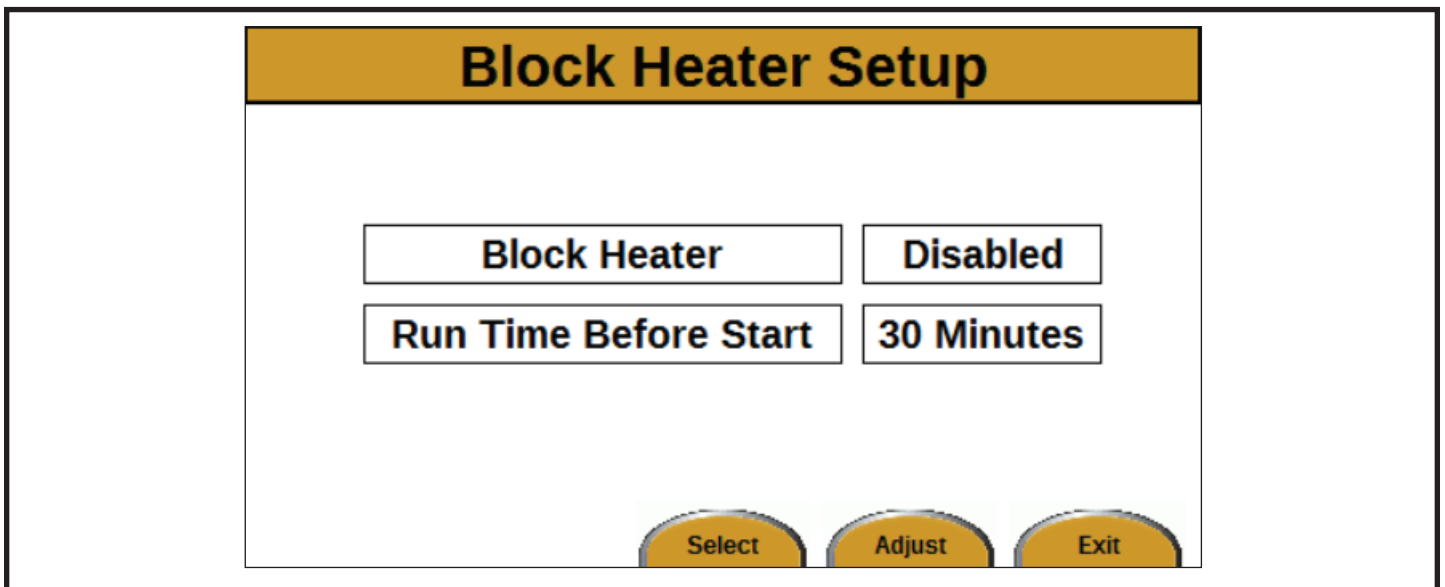

Figure 9
4. Press the Enter button. The Block Heater Setup screen will appear (see Figure 9).
The GPS latitude and longitude are in decimal degrees. The coordinates in Figure 9 are for Allmand Bros., Inc., Holdrege, Nebraska, USA.